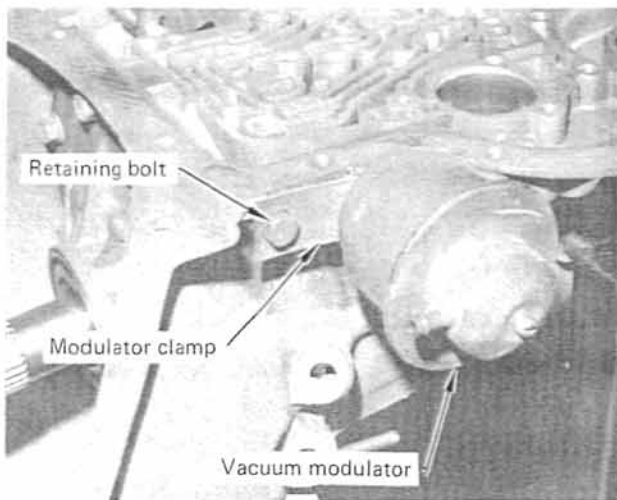

FIGURE 8
**STEP 8.** Remove vacuum modulator retaining bolt and clamp. (See Fig. 8) Remove vacuum modulator and O-ring. Discard O-ring. Reach into modulator bore in transmission case with a pair of needle nose pliers and carefully remove modulator valve. Set them in the oil pan.